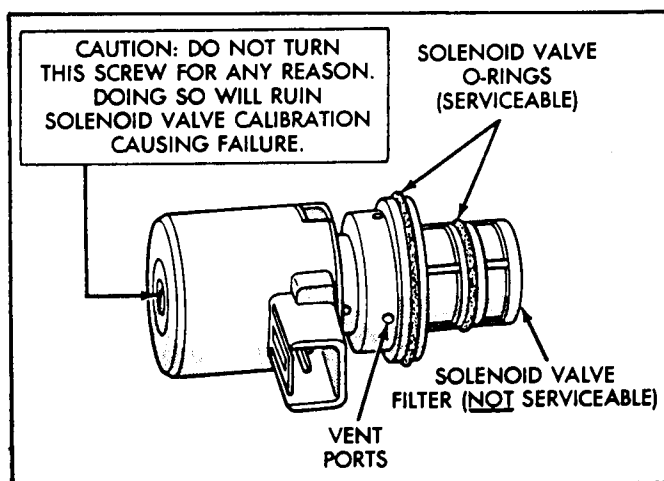

Figure 119
58. Install new "O" rings on the governor pressure solenoid, and lubricate with small amount of Trans-Jel, as shown in Figure 119.